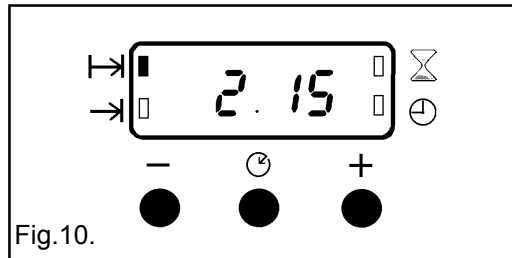

Fig.10.
- iii) To set the length of cooking time, press the Selector Control button until the 'Cook Time' (T→) indicator neon is illuminated. Press the increase control ( + ) until the required length of cooking time is displayed, e.g. 2 hrs 15 mins as Fig. 10. Depress the decrease control ( - ) if necessary.